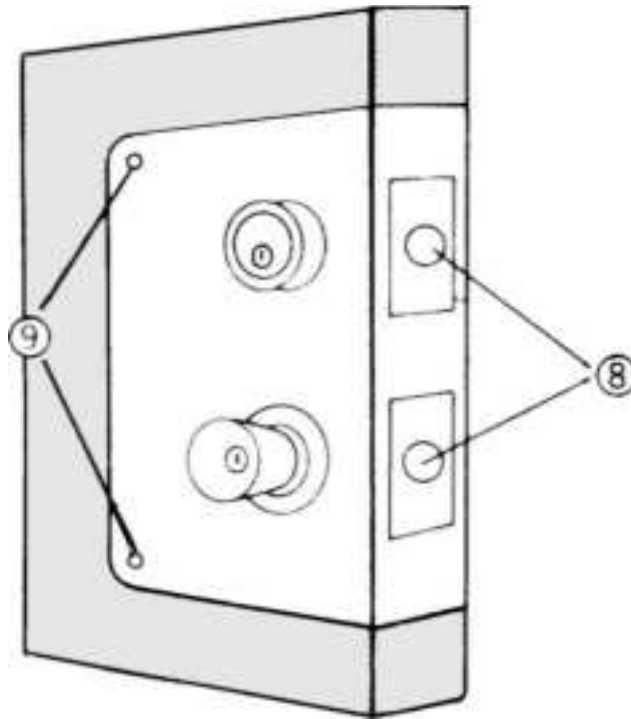

**Figure 13.141** Install the strikes and mounting screws to complete the installation. (*M.A.G. Engineering and Mfg., Inc.*)
6. Close the door and check that both the latch and deadbolt (8) enter the strikes (7). If they do not enter, move the Install-A-Lock assembly slightly up or down until the latches enter (Fig. 13.141 ).